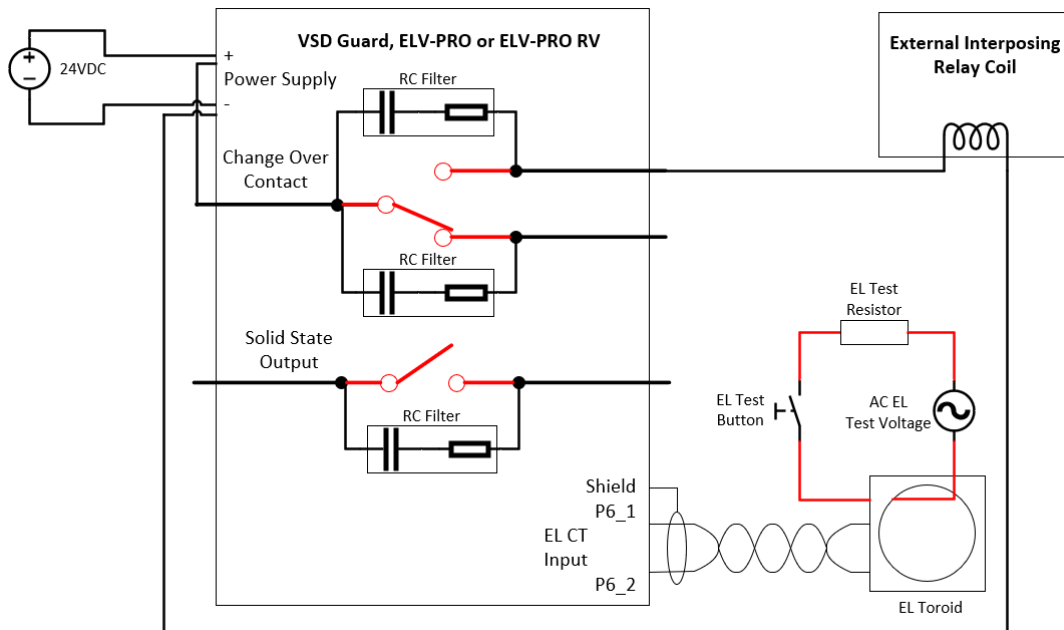

Figure 2: Use of the EL test function to assess vulnerability of the installation.
1. The vulnerability of an individual installation can be assessed via the routine Earth Leakage (EL) test function. See Figure 2. Repeated operation of the EL test will verify that the relay contacts open as intended, or whether they have a vulnerability to stay closed. Multiple operations are recommended to give a statistical reliability.